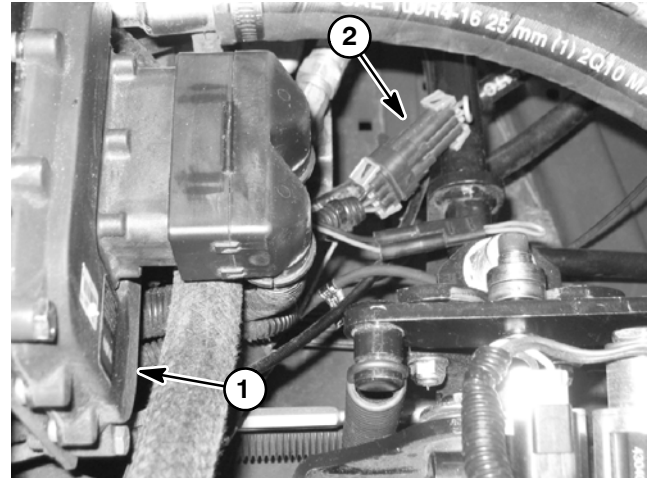

Figure 12
2. Tilt and support operator seat to access TEC controller. Locate wire harness and connectors near TEC controller. Carefully unplug loopback connector from harness connector (Fig. 12).